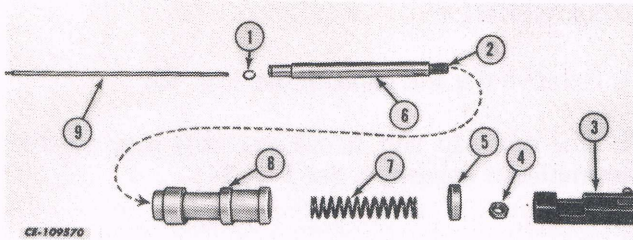

Fig. 38
e. Pull the spool assembly out of the valve body. Be careful not to drop or otherwise damage the actuating rod (9). See Fig. 38.